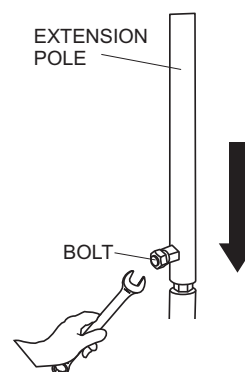

Figure 9. Attaching Extension Pole (GBWE)
5. For the GBWE, attach the extension pole to the top of the mast as shown in Figure 9.